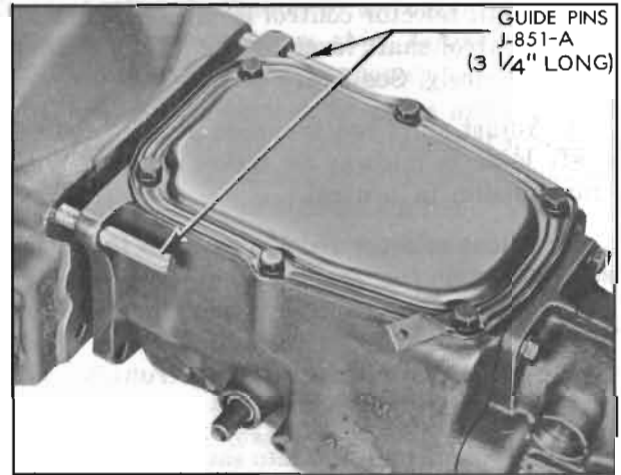

Figure 4-15—Transmission Guide Pins
11. Remove two upper transmission to flywheel housing bolts and install Guide Pins J-851-A to support transmission. See figure 4-15. Remove lower bolts, then move transmission straight out until clear of flywheel housing and lower to floor. **CAUTION:** *If weight of transmission is allowed to rest on main drive gear in clutch driven plate hub, driven plate may be damaged.* **NOTE:** Guide Pins J-851-A are identical with the old Guide Pins J-851 except for being $\frac{5}{8}$ " shorter.
2. Make certain that front face of transmission case and face of flywheel housing are absolutely clean. Install Guide Pins J-851-A in upper bolt holes in housing (figure 4-15). Install a new transmission gasket. Make certain that spring washer is in place behind clutch release bearing support in housing.